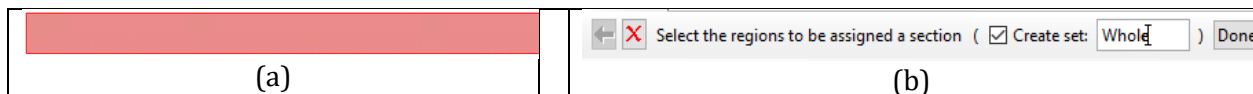

Figure 2-11 – (a) The selected geometry and (b) the prompt area.
2. Click anywhere on the beam to select the entire part as the region to which the section will be assigned, as shown in Figure 2-11(a).
3. In the prompts, check **Create set**. See Figure 2-11(b). Call this set **Whole** and click **Done** in the prompt area to accept the selected geometry. This will make a new set called **Whole** and contains the whole part. This set can be found in the **Model Tree** together with the set made in Section 2.1.